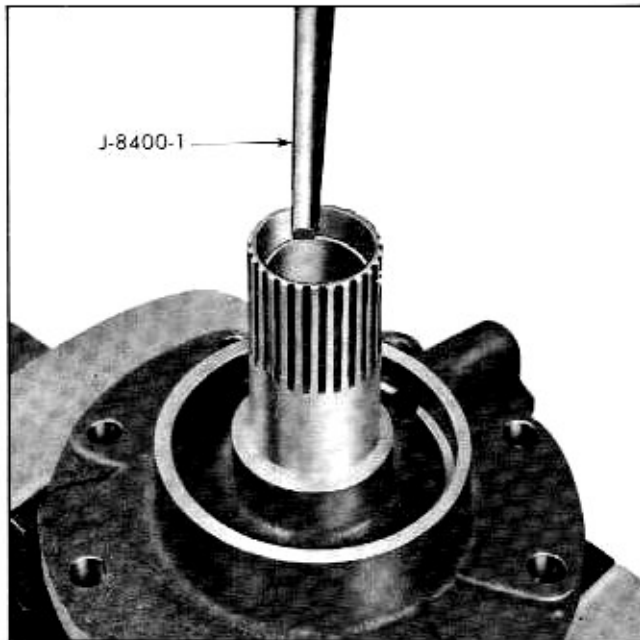

Fig. 4-44 Removing Stator Shaft Bushing
6. Remove stator shaft bushing using tool J-8400-1 (Fig. 4-44).